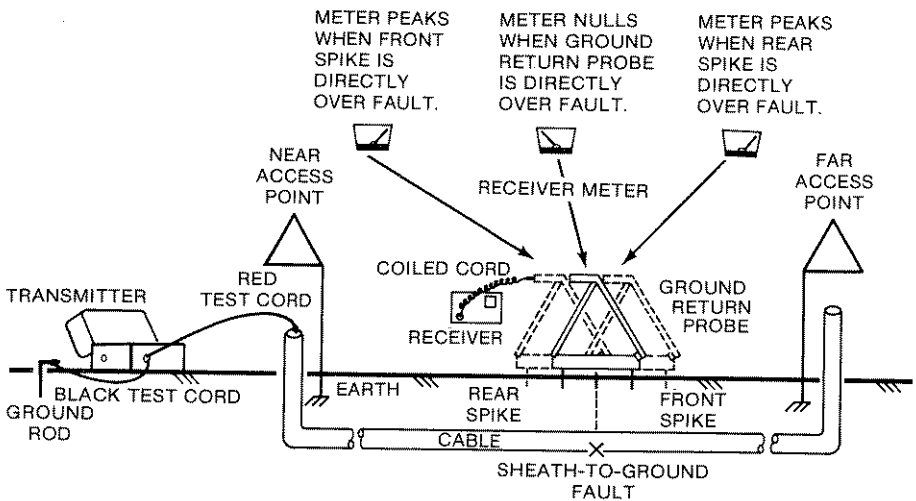

Figure 3-1.
3. Connect the black test cord clip to the ground rod (see Figure 3-1).
4. Plug the jack end of the red/black test cord into the RED/ BLACK TEST CORD jack receptacle on the transmitter (see Figure 3-1).
The meter readings will rise as you probe until a maximum (PEAK) level is reached (see Figure 3-1). Periodically adjust the GAIN control knob on the receiver to prevent meter readings greater than 10. When you reach the PEAK meter reading, change the distance between probings from 6 inches to 2 inches. While continuing to probe, the meter readings will now begin to fall until a minimum (NULL) level is reached (see Figure 3-1).